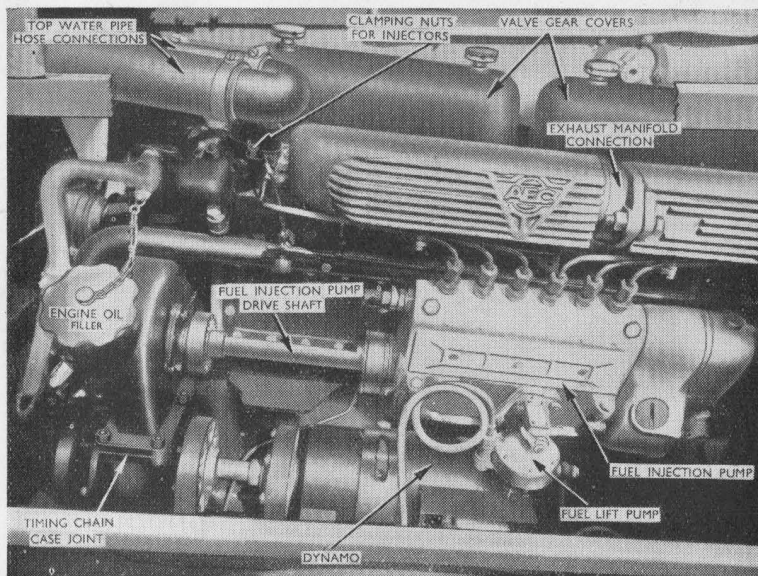

Fig. 13. Nearside View of Engine.
If a leak is detected, stop the engine, then tighten the clamping nuts (Fig. 13), taking care to avoid over-tightening.
(iv) EXHAUST MANIFOLD JOINTS (Fig. 13).
- (f) Valve gear covers (Fig. 13).
- (g) Timing chain case to crankcase (Fig. 13).
- (a) The long top hose (*Fig. 13*).
- (b) The short top hose (*Fig. 13*).